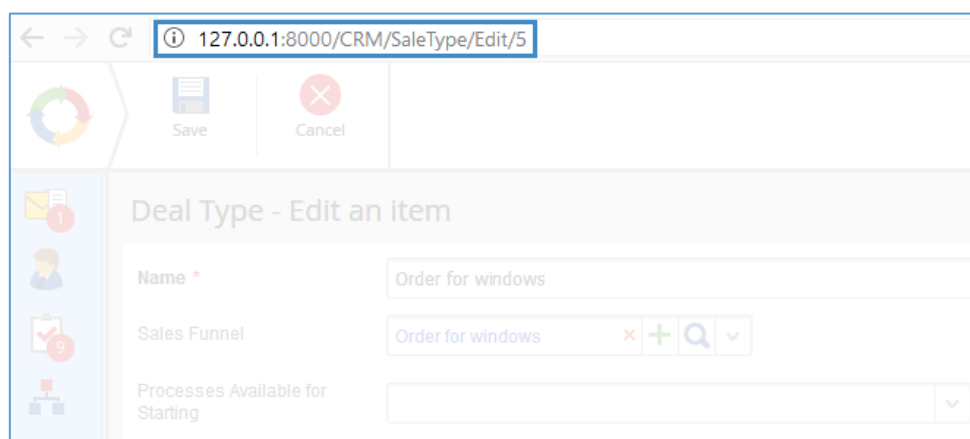

Fig. 149. Deal type ID
- **Deal type** – you can find the identifier in the web application. Just open the deal type object page: the identifier is the last number in the address bar (Fig. 149). Then click **Check** to find the previously created deal type;